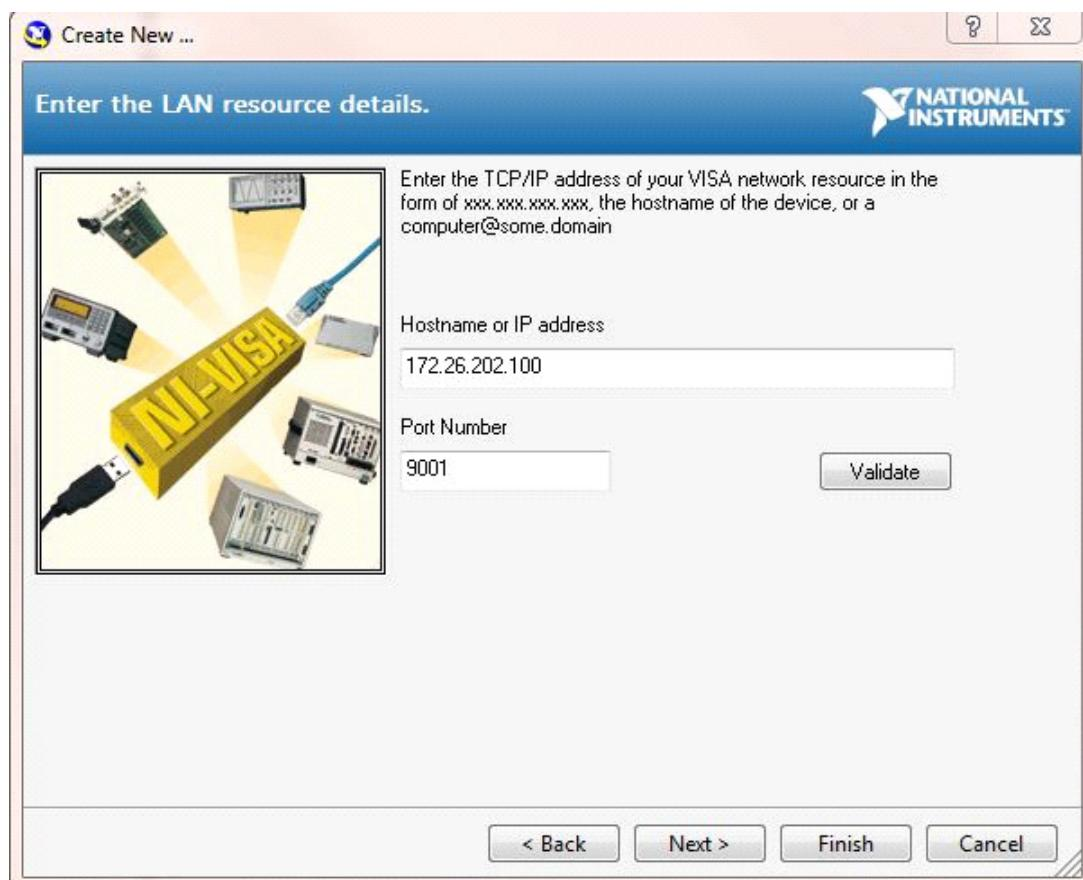

Figure 1-2. NI VISA Interactive Control LAN Resource Settings of IP Address and Port Number
2. Enter the IP address that the instrument has acquired (On the S331P, go to System, Status, Connectivity Info, then enter the IP address as shown in Figure 1-2).